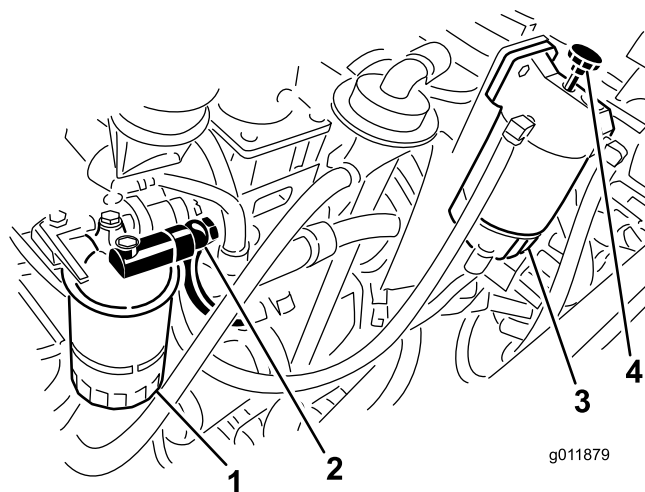

Figure 66
5. Loosen the banjo fitting on the fuel filter housing (Figure 66).
6. Operate the water separator priming pump until a solid stream of fuel is detected at the banjo fitting (Figure 66).